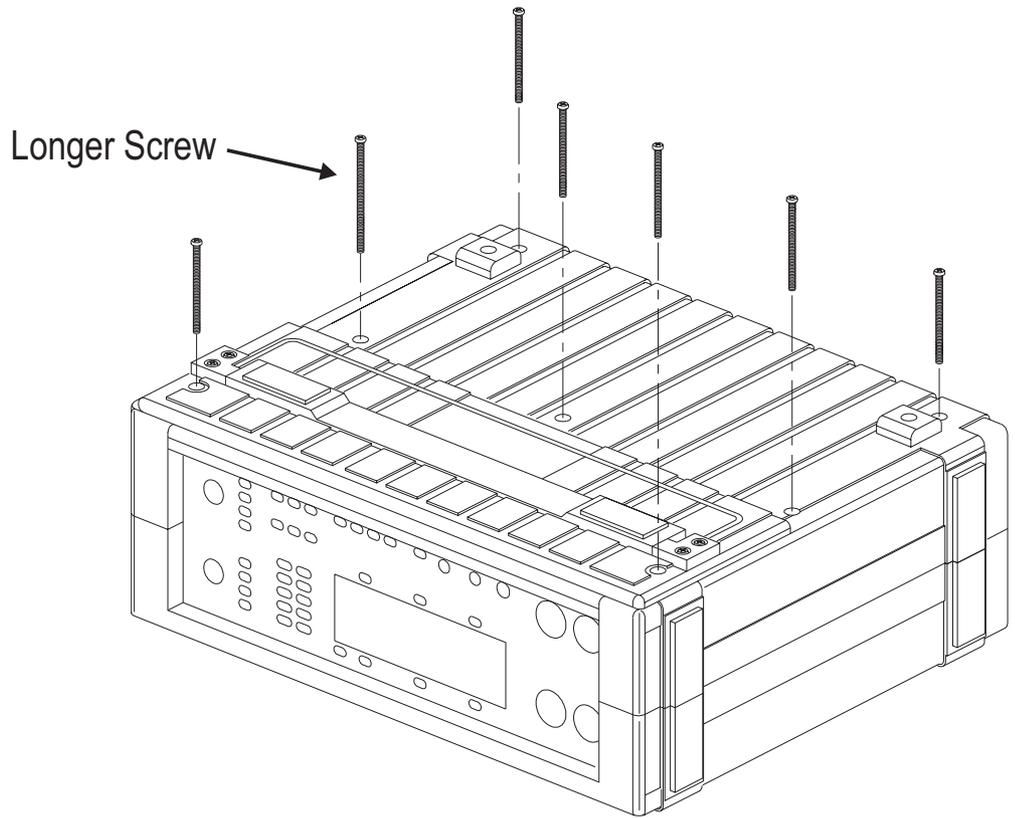

Figure 9-1 Screws Removed for Case Disassembly
2. Using a Phillips (cross-head) screwdriver, remove the seven screws recessed into deep holes in the bottom of the instrument. These screws are shown on Figure 9-1. Do not remove the screws that attach the rear feet or the four small screws holding the tilt bail assembly in place. Note that the screw nearest the handle is longer than the others; it must be replaced in its original location during reassembly.
9. Replace the handle assembly and shoulder strap anchors to their locations in the inverted case top. Reassemble the bottom half of the case, making sure that the front and rear panel edges go into their slots in the case. Slide the case down evenly and gently to its position. Reinsert and tighten the seven screws, making sure that the longer screw is in the proper location (shown on Figure 9-1).